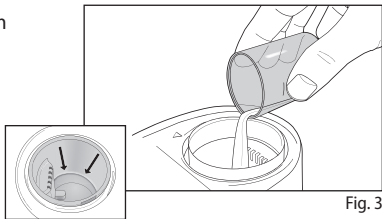

Fig. 3
4. Using the included measuring cup, add 20 ml of pure tap or distilled water to the water heater tank, Fig. 3. Note the fill line in the tank. Do not overfill. Never add saline, essential oils or other additives as this will damage the unit.